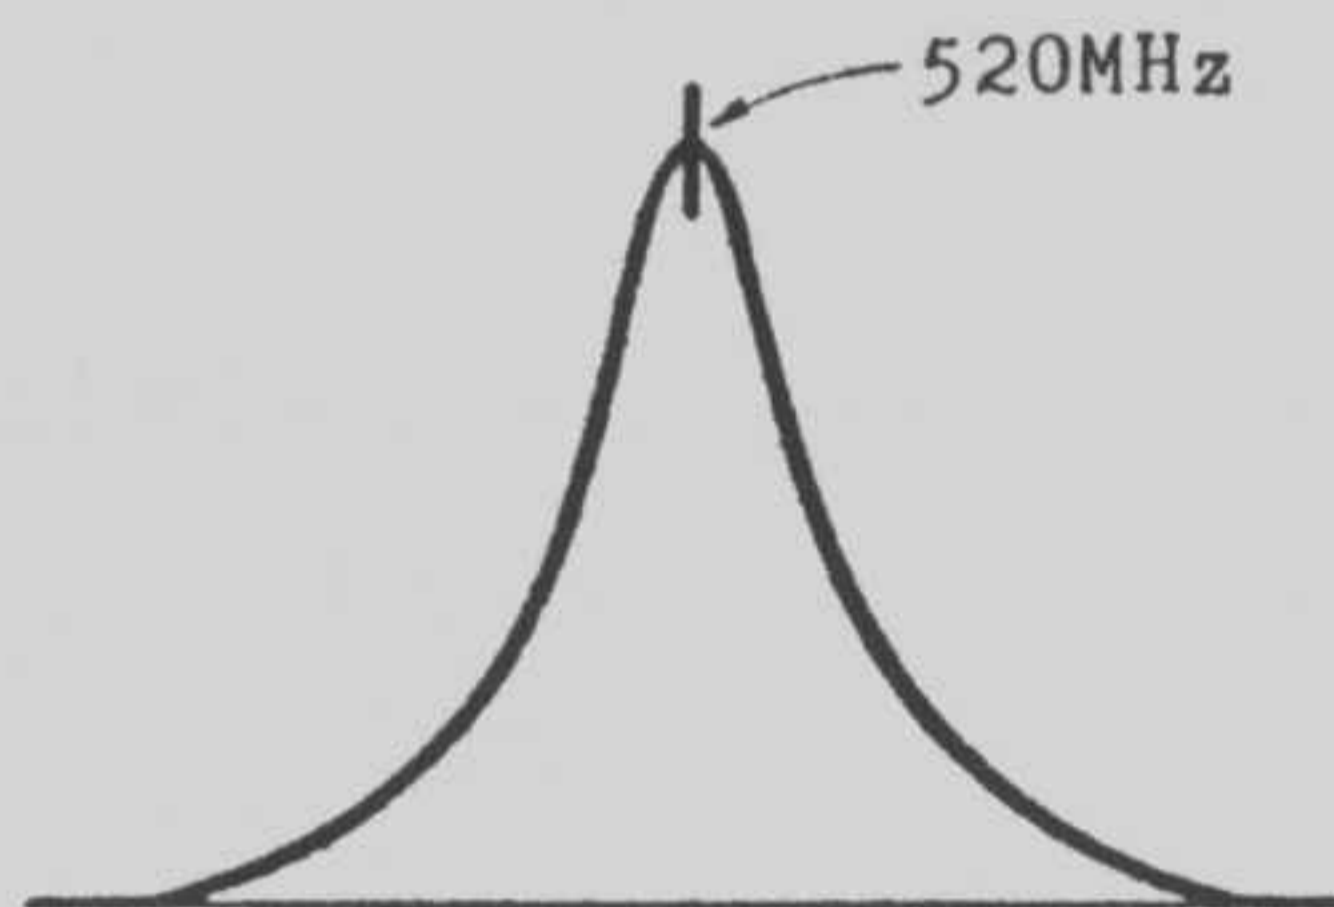

Figure-10
- b) Adjust L304 and VC301 for maximum amplitude of frequency response as shown in Figure-10
- c) Adjust VC401 to position the peak of response at 520MHz marker as shown in Figure-10.